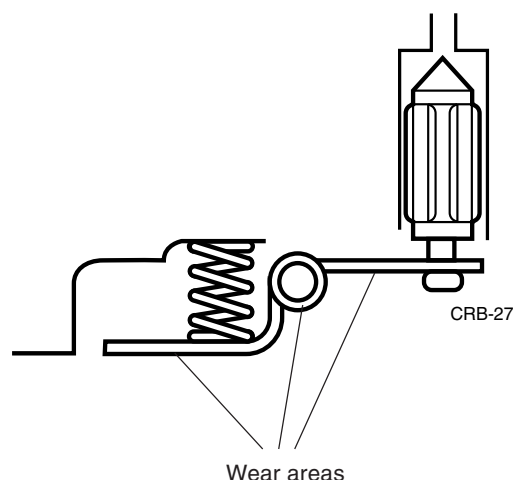

Figure 3.23 Inspect the metering lever for wear.
- Inspect the metering lever for signs of wear at the forks, hinge-pin, or from contact with the diaphragm (Figure 3.23).